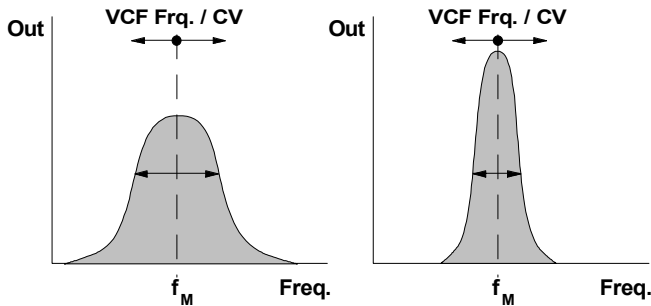

fig. 1: Frequency response of a band-pass filter with lower (on the left) and higher resonance
The A-127 is a triple resonant filter containing three band-pass filters each with controllable filter frequency f_M , resonance and amplitude. What a band-pass filter does is to attenuate signals in frequency ranges both above and below the filter frequency - referred to here as the middle frequency - resulting in a bell-shaped response curve (see fig. 1). In this way, a particular part of the audio spectrum can be singled out.
band let through, and the Audio Level control to set the volume (see fig. 1).
The module is set up at the factory so that attenuator ① doesn't have any effect on the Original signal level ⑧, so the effected sound (3 Filters) and "Original" sound can be controlled separately, by ① and ⑧ respectively (see fig. 1). It's possible to change this by altering a jumper on the mixer circuit board (see chapter 7, Appendix), so that both the levels (Filter + Original) can be controlled by attenuator ①.
② LFO Frq.
⑥ Resonance
Control ⑥ is used to set the **filter resonance**. The higher this control is set, the narrower the **bandwidth** of the bandpass effect (see fig. 1).
① Audio In